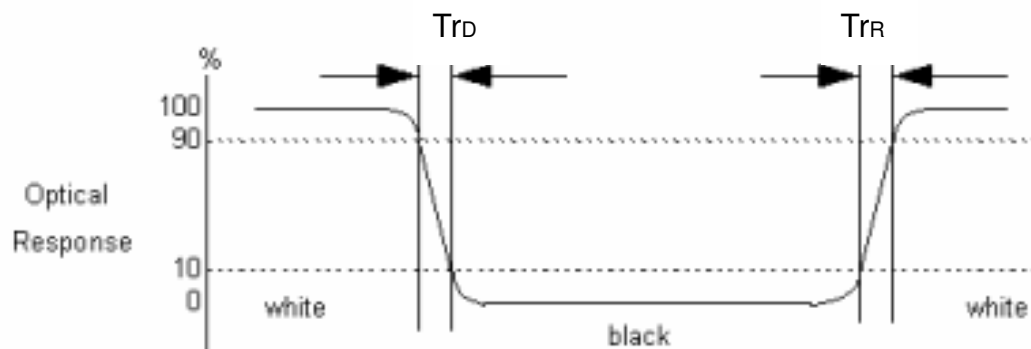

Fig.4-3 Response time
4. Response time is the time required for the display to transition from white(L_{255}) to black(L_0) (Decay Time, $T_f=Tr_D$), and from black(L_0) to white(L_{255}) (Rise Time, $T_r=Tr_R$). For additional information see Fig. 4-3.